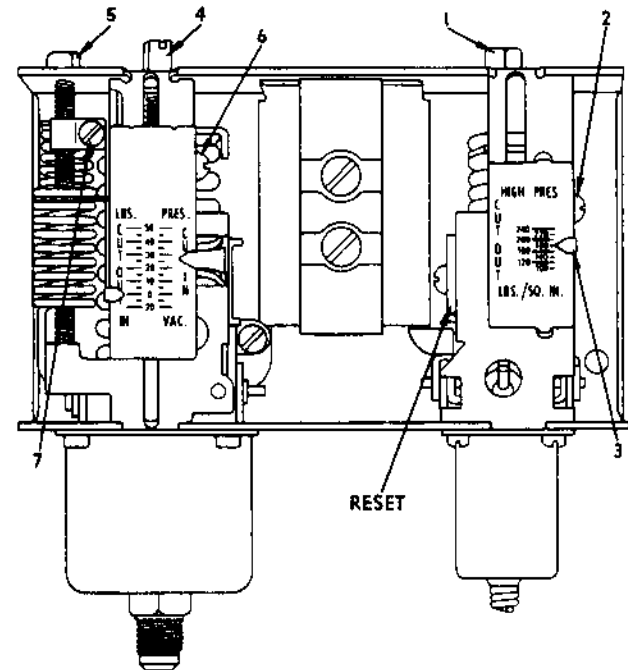

FIGURE 4 — Refrigerant Pressure Control
1. Lower or raise the setting of the switch, as required, by turning the High Pressure Cutout adjustment screw (1—Figure 4) and continue with the test.
2. When the switch is cutting out at the correct gauge pressure, recalibrate the scale by loosening the calibration screw (2—Figure 4) and sliding the indicator (3—Figure 4) until it indicates the gauge pressure at which the switch is cutting out. Tighten the screws.
1. If the switch fails to function in the manner described above, raise or lower the cut-in and cut-out pressure settings, as required, by turning the adjusting screws (4 and 5—Figure 4) and continue with the test.
2. When the switch is operating correctly, loosen the calibration screw (6—Figure 4) and slide the scale until the gauge pressure at which the compressor cuts in is indicated on the right side of scale. Loosen calibration screw (7—Figure 4) and slide the indicator to the gauge pressure at which the compressor stops. Tighten the screws.